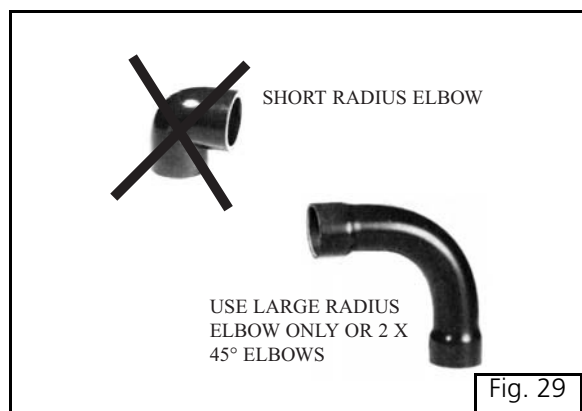

Fig. 29
– Large radius elbows only result in a flow-rate loss of approx. 0.5%. When large radius elbows are unavailable, use 2 successive 45° short radius elbows instead. See Figure 29.